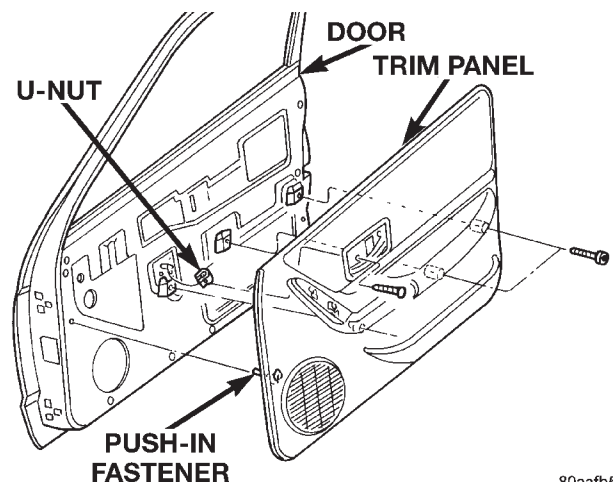

Fig. 3 Front Door Trim Panel Remove/Install
(1) Disconnect and isolate the battery negative cable.
(2) Remove the screws that secure the door trim panel to the inner door panel (Fig. 3).